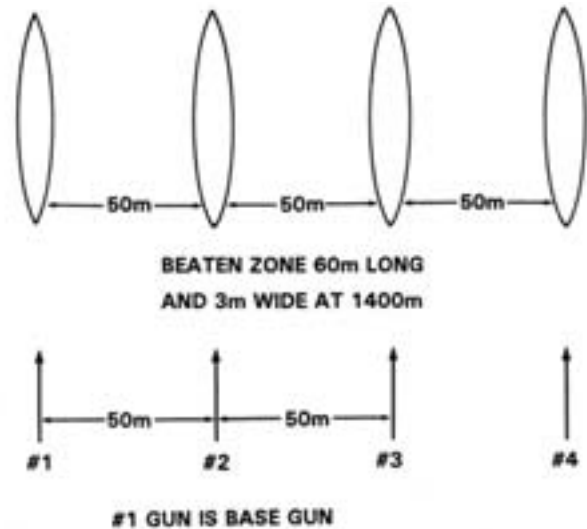

Figure F-1. Parallel Sheaf.
(2) Use of Plotting Board. The pivot point of the plotting board becomes the location of the base gun. The base gun (all guns) are laid on the gun-target (GUN-TGT) azimuth. All guns set zero deflection to correspond to the GUN-TGT azimuth. (Machine guns are normally positioned 50 meters apart.) The beaten zone for four machine guns, each laid on the GUN-TGT line with a range to target of 1,400 meters, is as depicted in figure F-1.
Example: A reconciliation of the problem depicted in figure F-1 to that shown in figure F-2 is accomplished as follows: